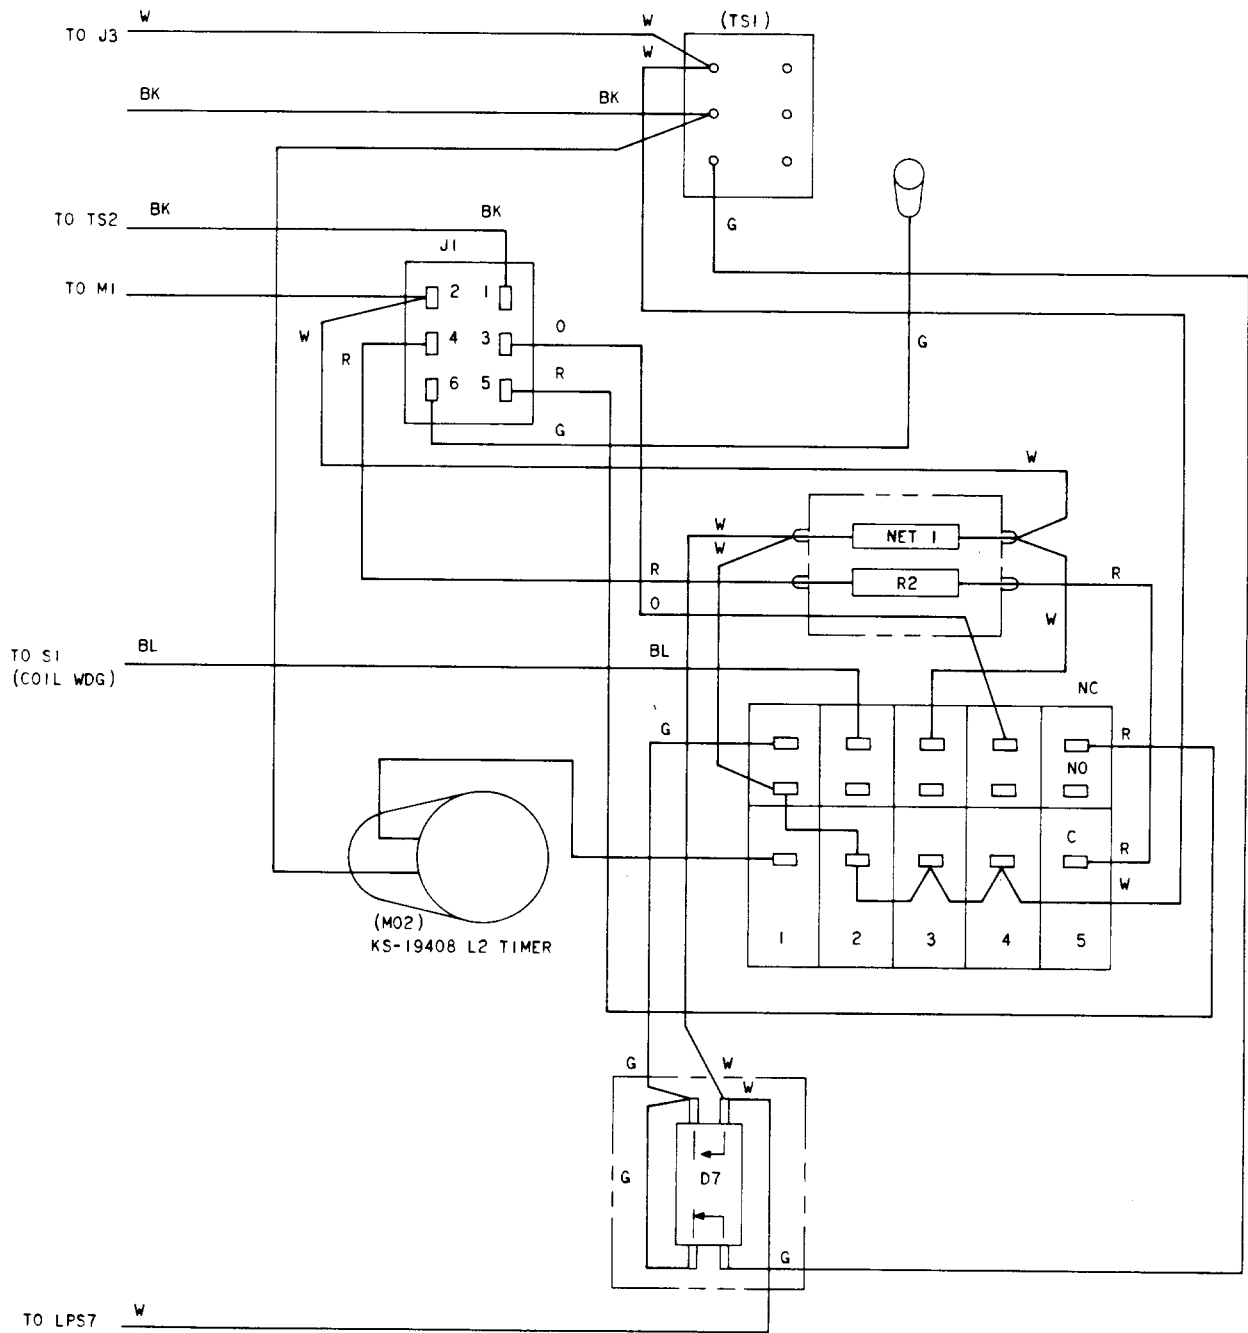

Fig. 3—KS-19408 L2 Timer—Wiring Diagram
(1) **General:** The timer originally furnished and the KS-19408 L1 timer have been superseded by the KS-19408 L2 timer. When a timer or any parts thereof require replacement, the entire timer should be replaced by a KS-19408 L2 timer as covered in (2).
(2) **Timer:** To replace the timer, tag and disconnect the timer leads. Unlatch and swing open the lamp mounting frame at the timer end of the chassis. Using the 5-inch E screwdriver, remove the flathead timer bracket mounting screw. Remove the other timer mounting screw, lockwasher, and nut. Mount the new timer in reverse order of removal, and connect the timer leads as shown in Fig. 3.
3.12 Resistor and Network: Fig. 3—Using the 33 socket wrench, remove the panel mounting nuts, washers, and lockwashers. Unsolder the connections to the part to be replaced. Substitute the new part and solder the connections. Remount the panel.